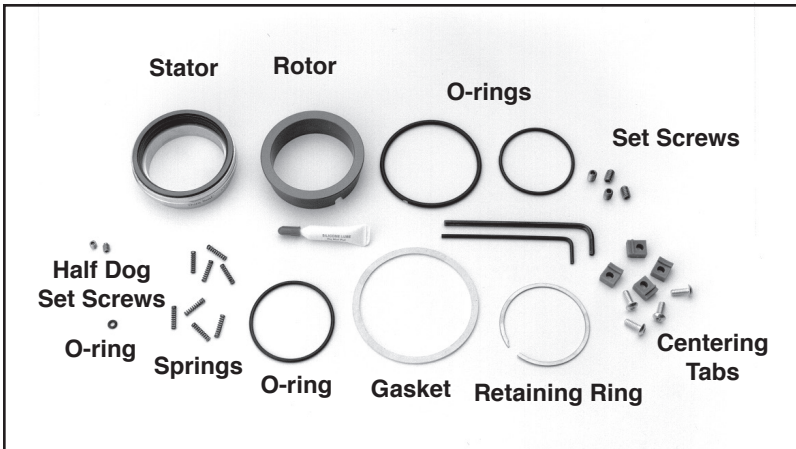

Figure 7
4.1.1 These instructions are to be used in conjunction with the P-50 Repair Kit. The Repair Kit contains replacement seal faces, secondary seals, and other special hardware. The parts are identified in Figure 7. The repair should be done in a clean, well lit area. The **tools you will need** to do the repair include: